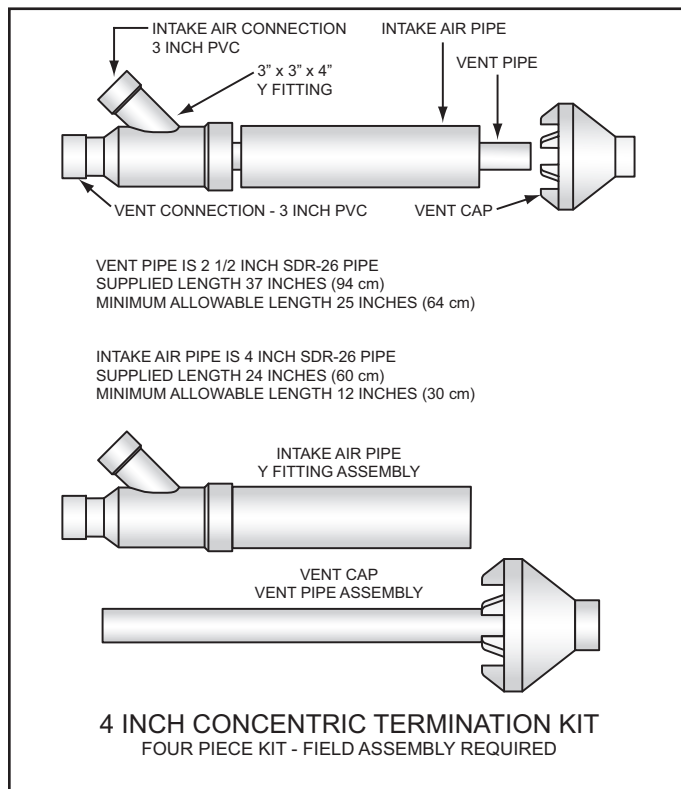
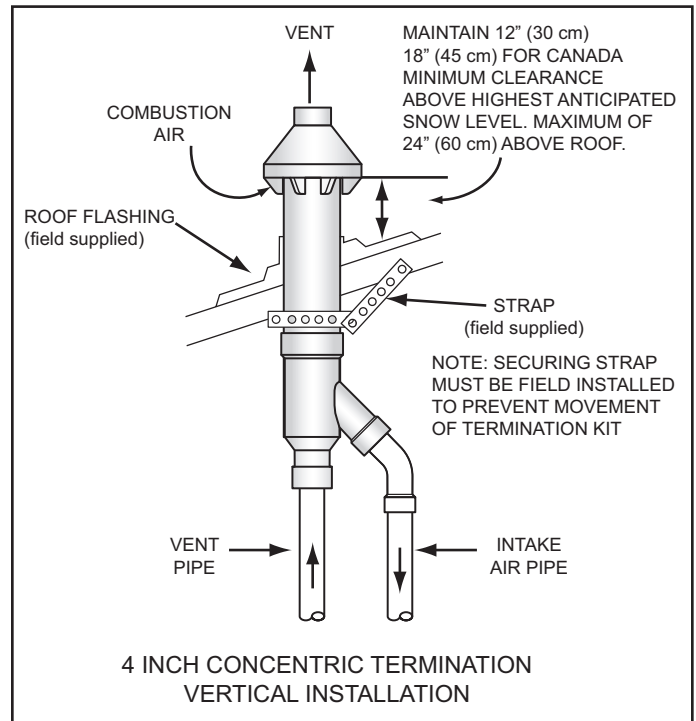
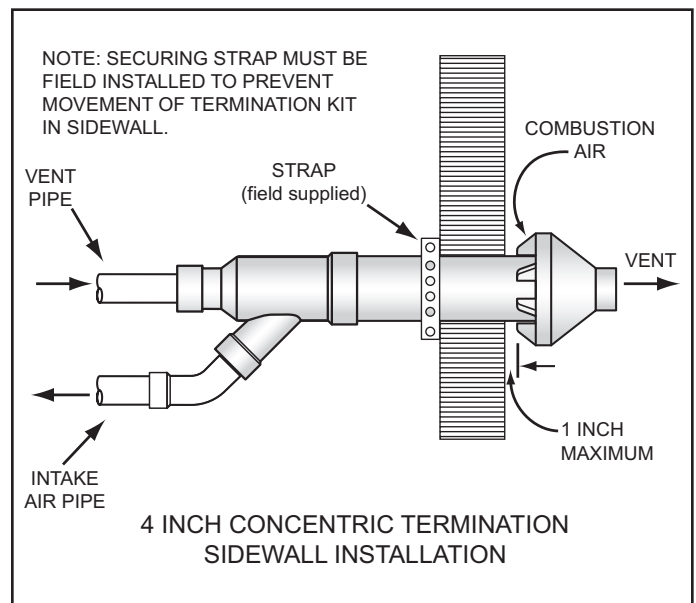

Figure 28
Figure 29
Figure 30
3. When installing a concentric termination vertically through the roof; ensure that all exterior vertical clearance requirements for the concentric termination, shown in Figure 29 on page 31 are being maintained. These clearances and those cited by local and national codes must be maintained.
See Figure 28 on page 31 for the minimum lengths allowed for the 4 inch concentric termination.
Assemble and install the 4 inch concentric termination. Refer to Figure 28, Figure 29 and Figure 30 for these instructions: